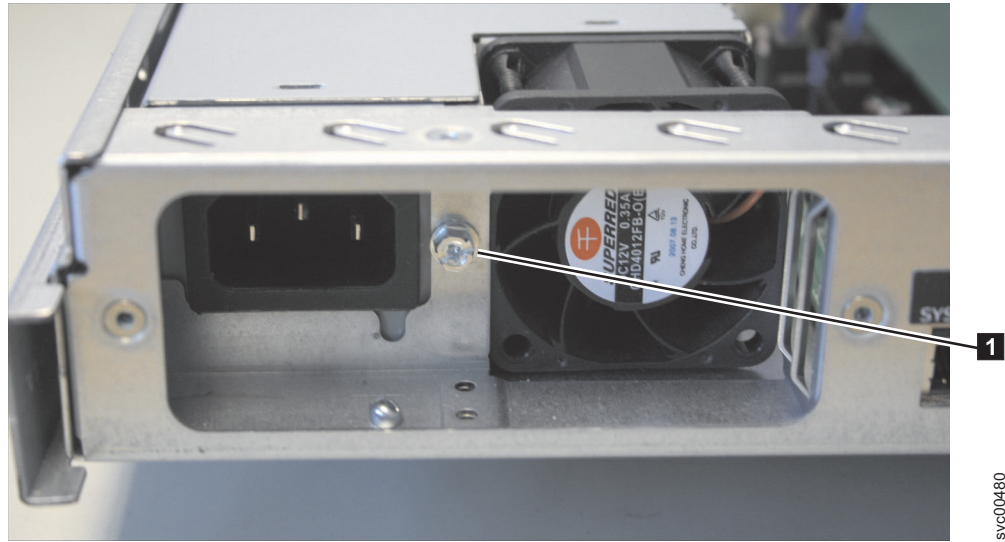

Figure 14. Retaining screw on the SAN Volume Controller 2145-8A4 node
2. Unscrew the retaining screw **1** that is located next to the power cable socket three full turns, but do not fully remove the screw, as shown in Figure 14.